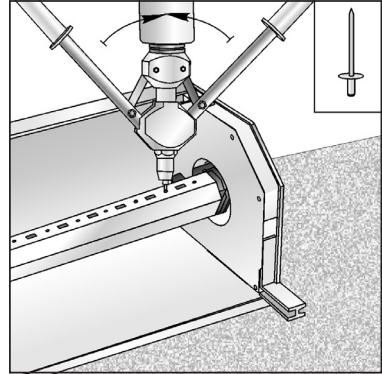

Fig. 14
- install a set of key lock rings at the octagonal roll tube (Fig. 14);